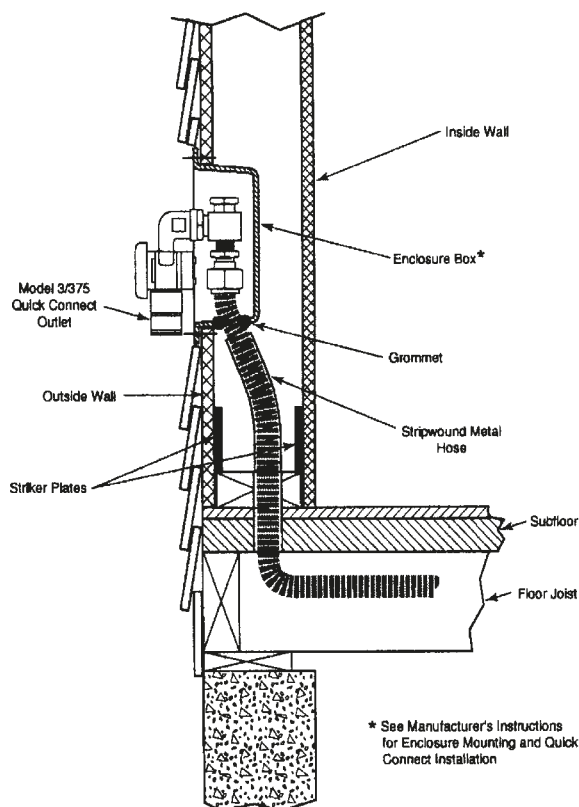

Figure: 4-19
1. Movable grills shall be connected using an approved outdoor appliance connector which shall be attached to the flexible piping system at either a termination mount fitting, a transition to a steel nipple, or a quick-connect device such as the M. B. Sturgis Model 3/375 shown in Figure: 4-19. The quick-connect outlet shall be installed in accordance with manufacturer's instructions.